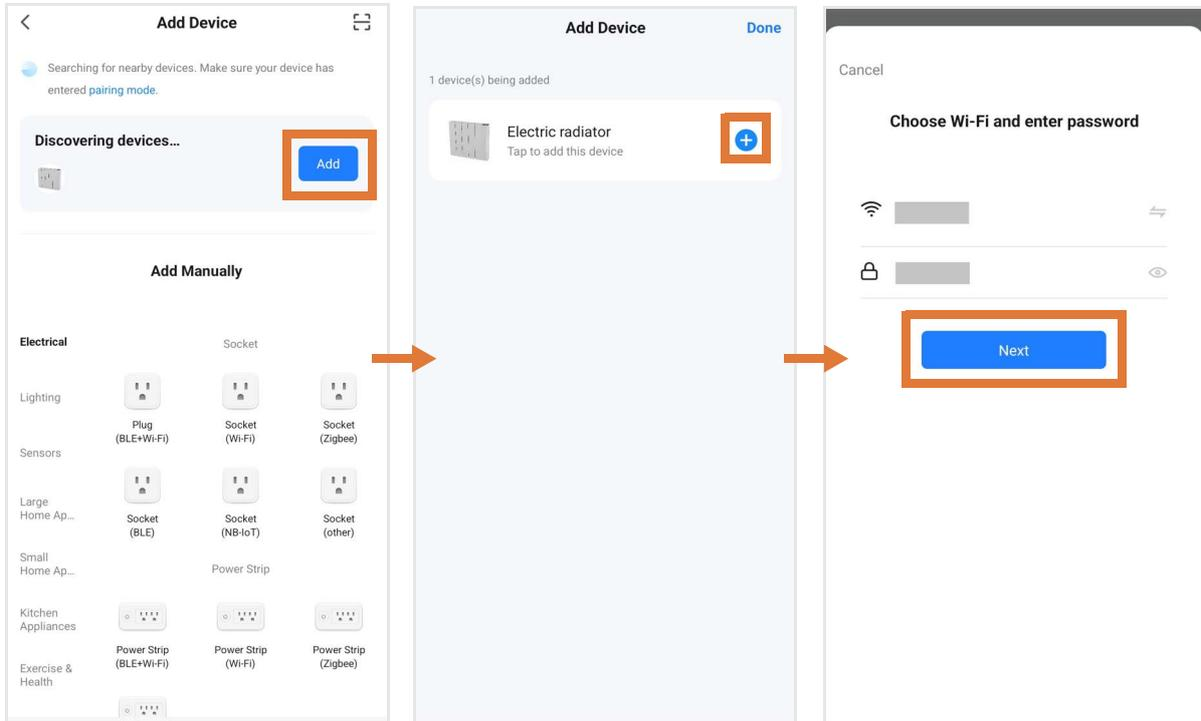

Figure 8 | Finding device on Smart Life app
- The app will demonstrate that it has found the radiator (see **Figure 8**). Press “Add”, then tap the  icon.